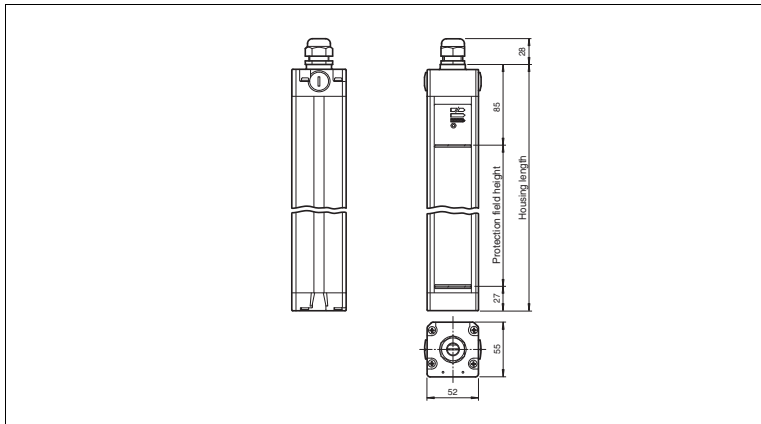

Figure 10.1 Dimensions of SLC safety light curtain (master)
- The housing cross-section is the same as an SLC safety light curtain → see Figure 10.1 on page 42.